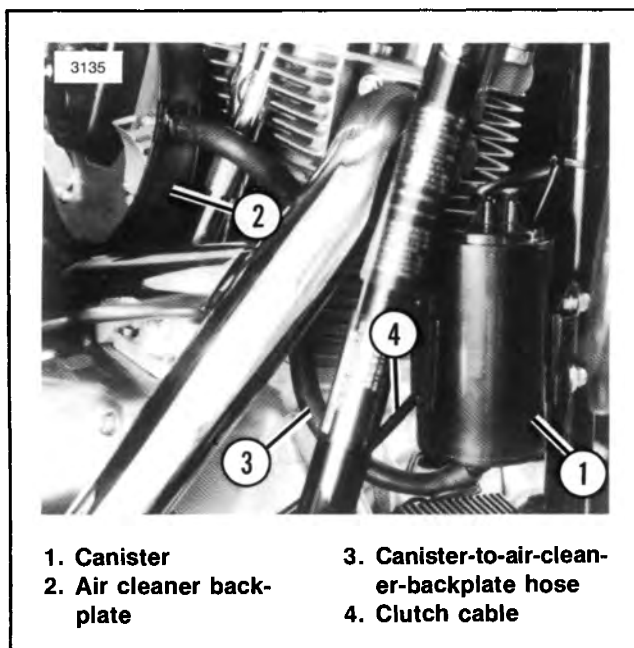

Figure 4-65. Canister-To-Air-Cleaner-Backplate Hose
See Figure 4-65. Canister-to-air-cleaner-backplate hose (3) connects the bottom nipple on canister to the air cleaner backplate.